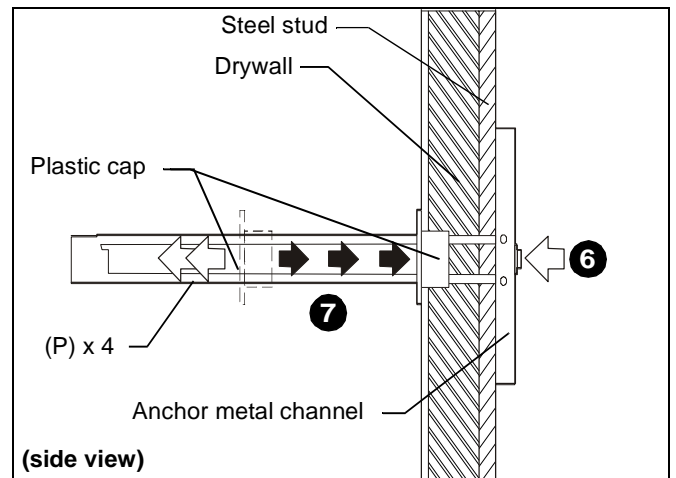

Figure 10
- Holding plastic straps on anchor (P), pull anchor away from wall until channel rests flush behind wall making sure anchor channel is positioned vertically on stud. (See Figure 10)
- Slide plastic cap on anchor (P) towards wall until flange of cap is flush with wall. (See Figure 10)